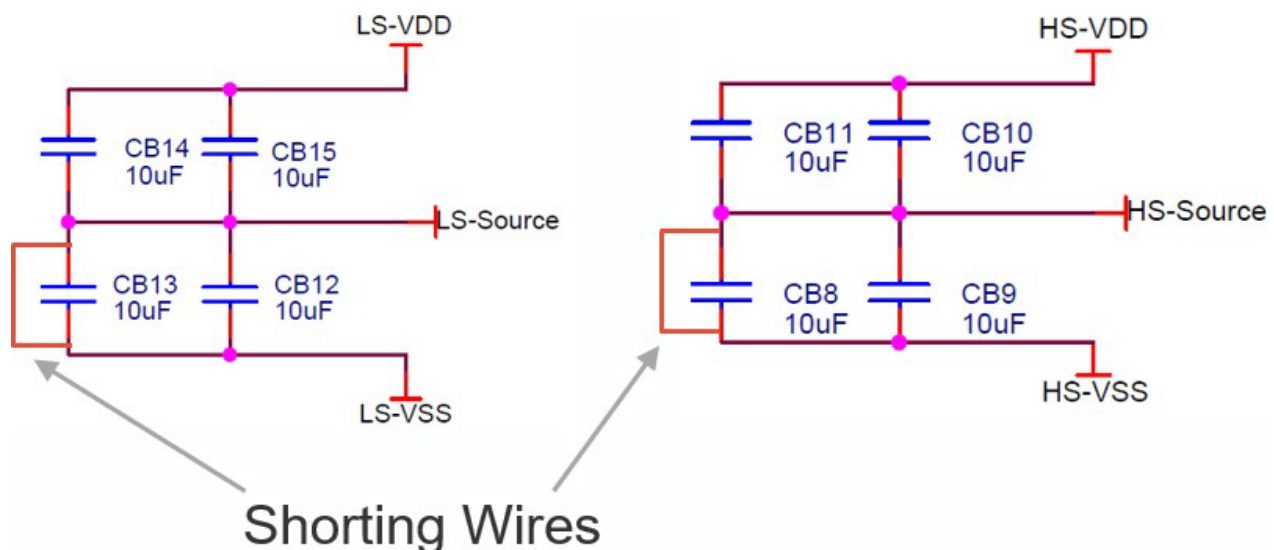

Figure 2: Unipolar drive configuration.
3. R12P215S +15 V single output for unipolar gate drive. If unipolar gate drive is desired, a 0 Ω resistor or shorting wire must be placed between the Source and VSS rails on both the high-side and low-side. On the low-side, short out CB12 and CB13. On the high-side, short out CB8 and CB9. This is shown in Figure 2 below.